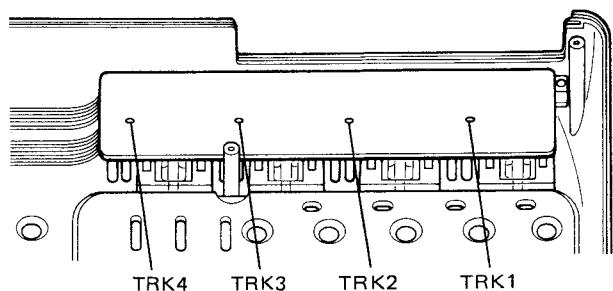

Fig. 9-2 VU Meter Adjustment
- 3) Make adjustments with a minus driver from the rear of METER PCB (Fig. 9-2).